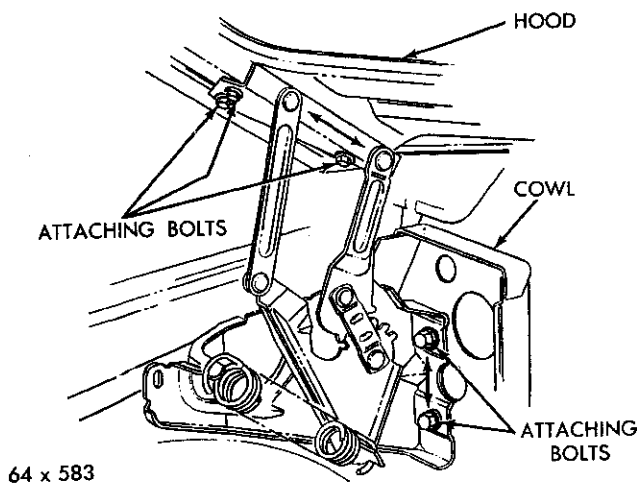

Fig. 3—Hood Hinge Adjustments (Imperial)
members with extra reinforcements also attach the rear springs and axle assembly (Fig. 3).
The upper hinge mounting stud holes are elongated for forward and rearward hood adjustment (Fig. 3). The hood hinge mounting bolt holes in the dash panel are elongated for up or down adjustment of the hood.
(1) To correct this condition, prop the hood open to relieve tension on the hinge springs.
(2) Loosen the bolts attaching the hood to the hinge plate, move hood rearward until correct spacing has been obtained, then tighten attaching bolts securely and inspect fit of hood. (Refer to Fig. 3). When moving the hood forward or rearward, it is suggested that the hood latch adjustment be inspected.